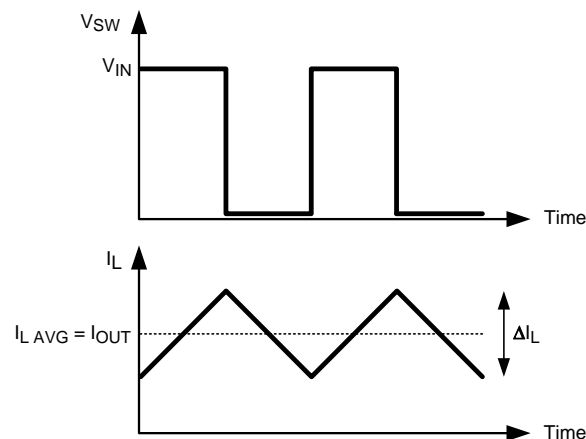

Figure 27. Switch And Inductor Current Waveforms
The inductor (L) used in the application influences the ripple current and the efficiency of the system. The first selection criteria is to define a ripple current, ΔI_L . In a buck converter, it is typically selected to run between 20% to 30% of the maximum output current. Figure 27 shows the ripple current in a standard buck converter operating in continuous conduction mode. Larger ripple current results in a smaller inductance value, which will lead to a lower series resistance in the inductor, and improved efficiency. However, larger ripple current will also cause the device to operate in discontinuous conduction mode at a higher average output current.